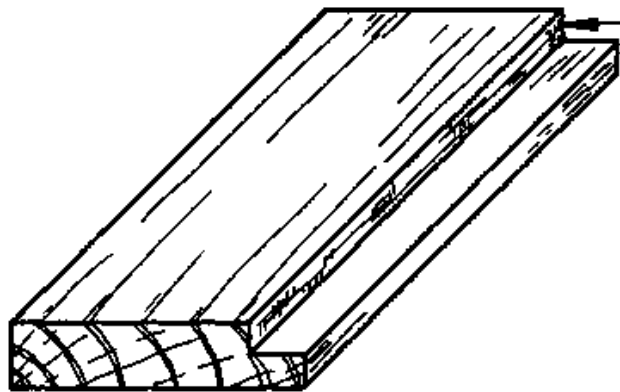

Fig. 5
- REBATE: This is a recess cut along the edge or across the end of a board as in Figs. 5 & 6.
- SHOULDER: The vertical portion of a trench or rebate (arrows, Figs. 5 & 6).